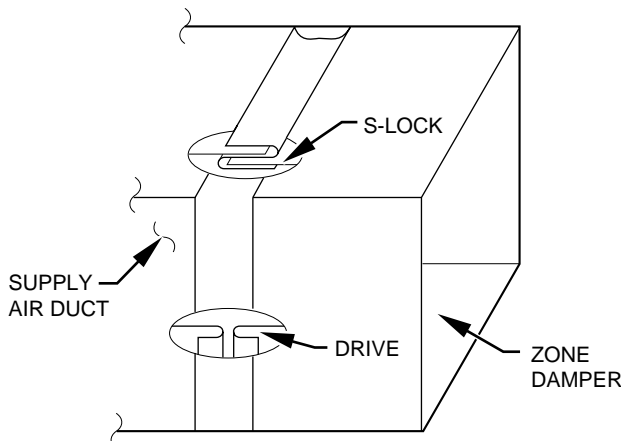

Fig. 2—Rectangular Metal Duct Work
2. Slip end of zone damper over end of duct work. Use self-tapping sheet metal screw to secure. (See Fig. 2.)
1. Make connections using S-lock and drives. (See Fig. 2.)